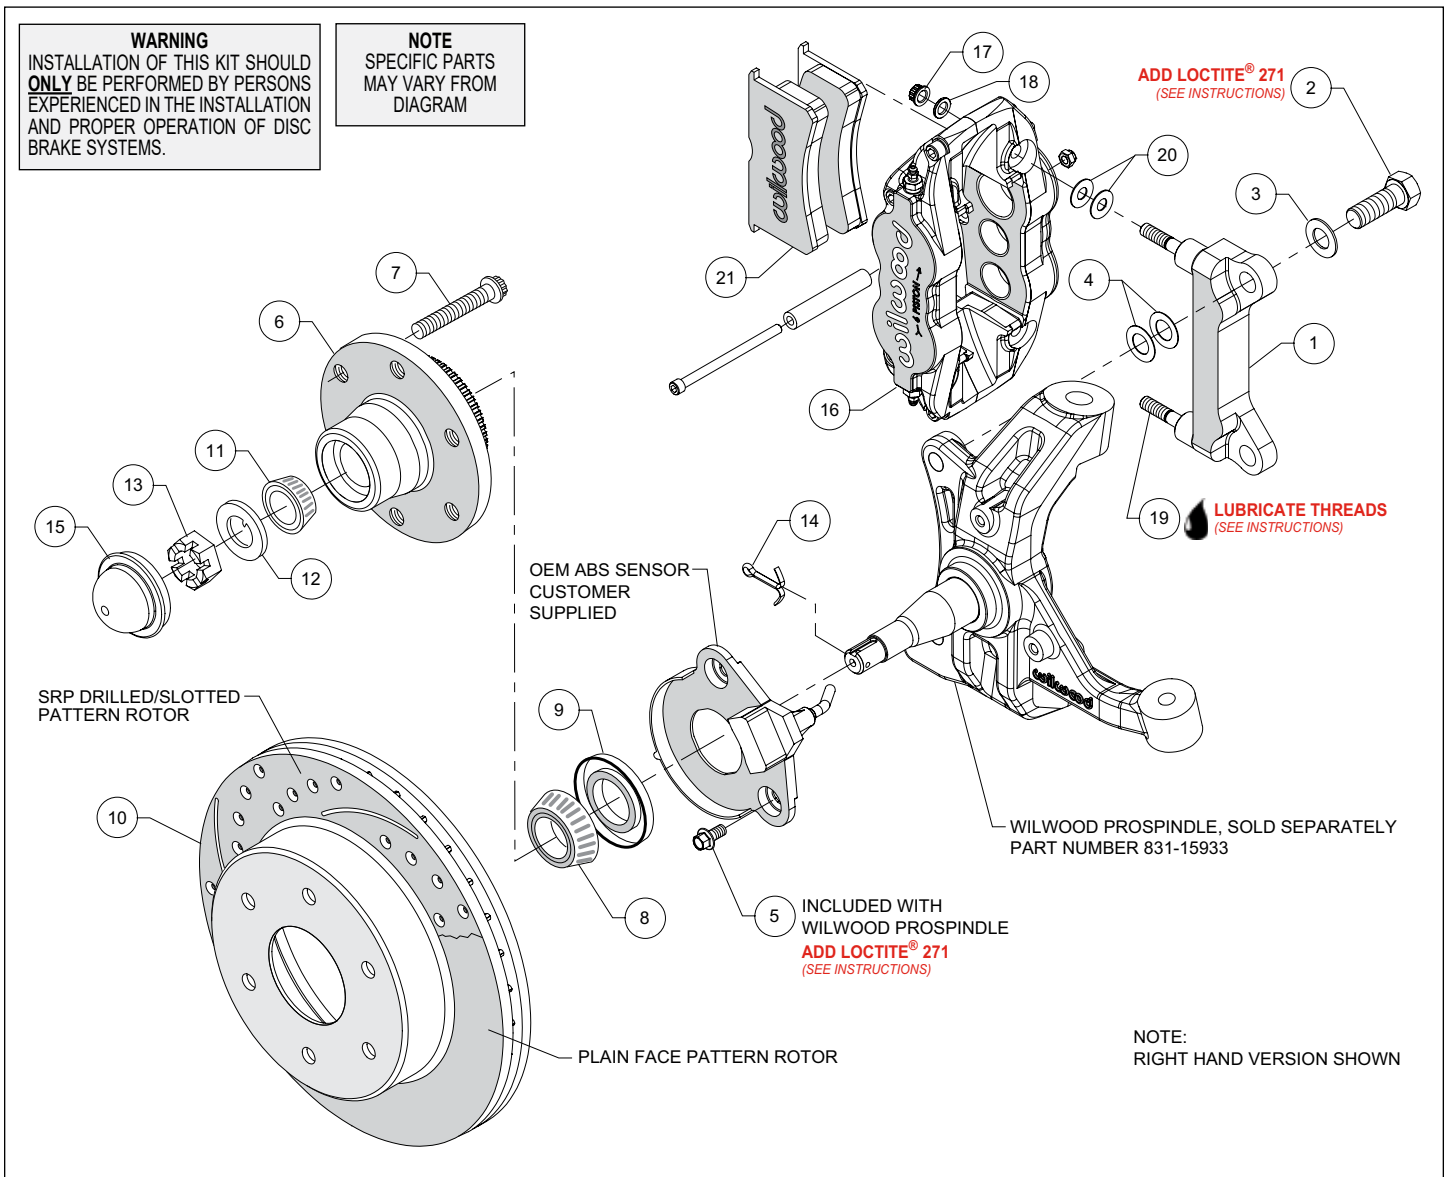

Figure 1. Typical Installation Configuration
NOTE: Numbers in parenthesis refer to the parts list and Figure 1 on the preceding pages.
- For vehicles equipped with ABS, install the OEM ABS sensor (customer supplied) to the spindle using bolts (5) as shown in Figure 1 and Photo 3. Temporarily tighten the mounting bolts. **NOTE: The sensor must fit squarely against the mount bosses on the spindle.** Inspect for interference from casting irregularities, machining ridges, burrs, etc. Remove the bolts one at a time and apply red *Loctite*® 271 to the threads, and torque to 20 ft-lb.
- The caliper mount bracket (1) should initially be installed with clean, dry threads on the mounting bolts. Orient the bracket, as shown in Figure 1 and Photo 4, and install using bolts (2) and washers (3). Initially place two .024" thick shims (4) on each bolt between the bracket and spindle, Figure 1. Temporarily tighten the mounting bolts. **NOTE: The bracket must fit squarely against the mount bosses on the spindle.** Inspect for interference from casting irregularities, machining ridges, burrs, etc. Later, after the caliper alignment has been checked, the mount bolts will be secured using red *Loctite*® 271.
- NOTE: This kit contains distinct right and left hand calipers that must be mounted in a specific direction, as described below.** Lubricate the caliper mounting studs (19) with lightweight oil. Initially place two .035" thick shims (20) on each stud between the caliper and the bracket, as shown in Figure 1 and Photo 10. Mount the caliper (16) onto the bracket (1) using lock nuts (17) and washers (18), Figure 1. Temporarily tighten the lock nuts. Ensure that the caliper is mounted so that the largest pistons are at the rotor exit end of the caliper, in relation to the direction of rotor rotation. View the rotor through the top opening of the caliper. The rotor should be centered in the caliper, Photo 11. If not, adjust by adding or subtracting shims (4) between the bracket and the spindle. Always use the same amount of shims on each of the two mounting bolts. Once the caliper alignment is correct, remove the bracket mounting bolts (2) one at a time, apply red *Loctite*® 271 to the threads, and torque to 140 ft-lb.